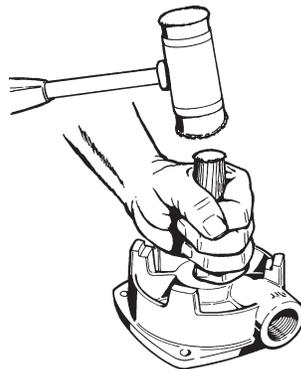

Figure 4-12
8. To remove the seat (#125). Refer to Figure 4-12. Place the motor bracket face down on a clean flat surface. Look into the opening in the center of the motor bracket, and you will see a portion of the seat. Insert the 1" dowel and, very gently, tap the seat until it drops out. Care must be taken with the seat. It is often a brittle material and is prone to breakage. **It is recommended that a new replacement seat be installed during reassembly.**